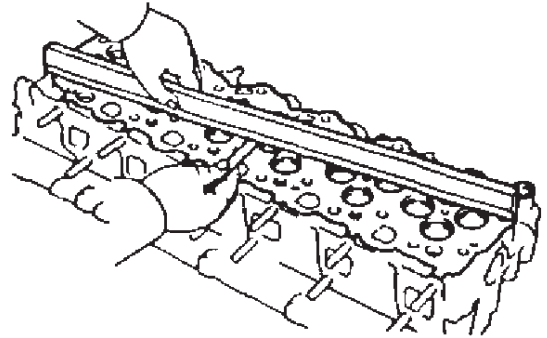

Figure 5-23
8. Measure the flatness of the cylinder head deck surface using a straight edge and feeler gauge (**Figure 5-23**).